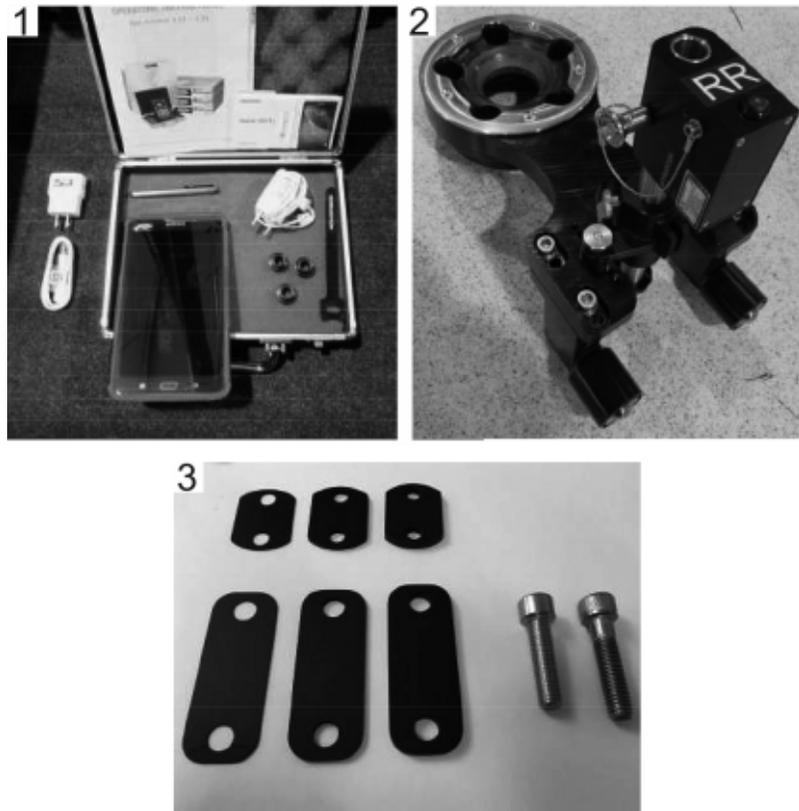

Figure 12
- ⇒ **Figure 12 -1-** – Tablet with accessories
- ⇒ **Figure 12 -2-** – Measuring wheel
- ⇒ **Figure 12 -3-** – Screws / washers package